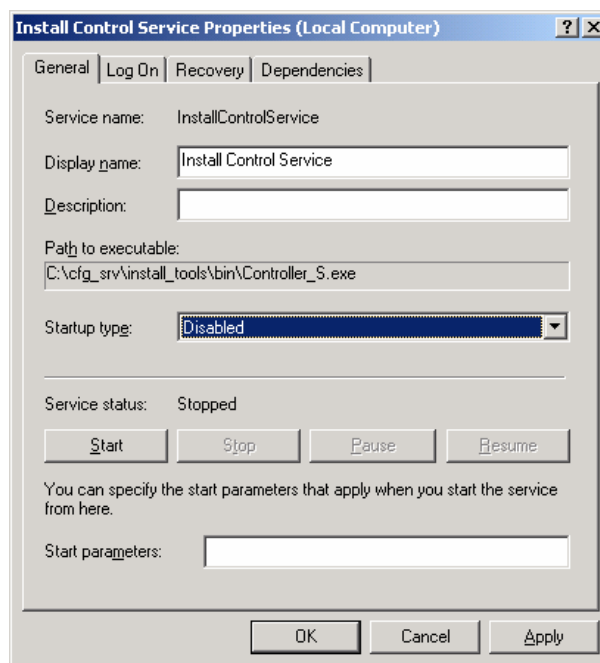

Figure 1-245. Disable Control Service
4. Set Startup type to **Disabled** and click **Apply** (Figure 1-245).